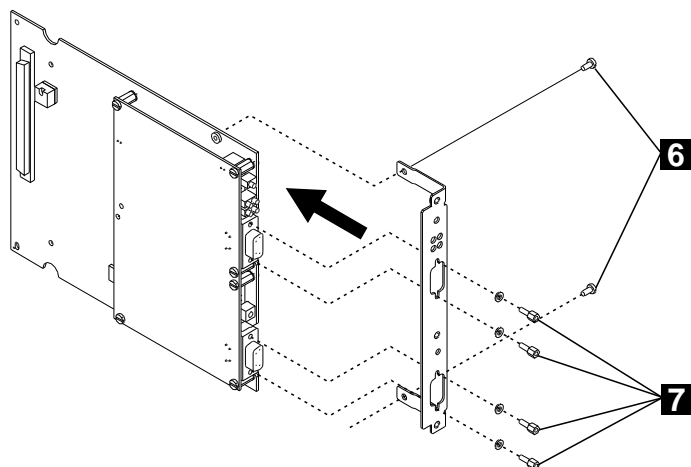

Figure 16. Attaching the Faceplate Bracket
- **7** Attach the faceplate bracket to the motherboard using the two screws ( **6** in Figure 16 on page 77) from the old dummy bracket.